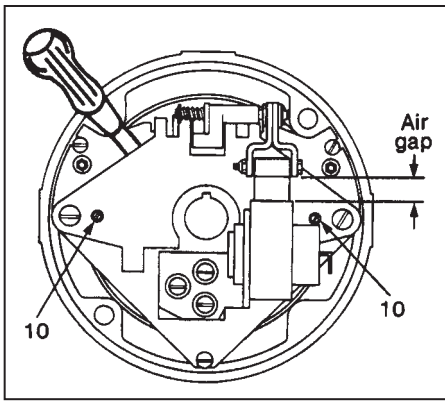

Figure 7
- To replace the solenoid coil, disconnect lead wire terminal screws (132S), lock washers (139W) and lead wires (139) or wire nuts.
- Insert a screwdriver between support plate (126) and top of lever arm (17). With screwdriver wedge apart, remove bearing pin (26), bearing (6), pivot pin (131) and solenoid lever (8) with solenoid link (13) and plunger (29). It is not necessary to separate the solenoid lever, solenoid link and plunger. See Figure 7.
- To remove coil (12A), unscrew plunger guide screws (84) and lock washers (84W). Remove both plunger guides (82) by prying up on the flanges. Discard plunger guides.
- Manually lift plunger to maximum travel. Depress and allow solenoid plunger to snap out several times. Measure solenoid air gap (see Figure 7) between mating surfaces of solenoid frame and solenoid plunger. (On vertically mounted brakes, it will be necessary to push solenoid plunger into solenoid frame to the point where spring pressure is felt, before measuring solenoid air gap.)